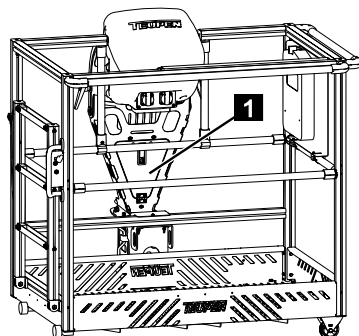

Fig. 217
3. Open the flap (Fig.217/1) on the control unit.